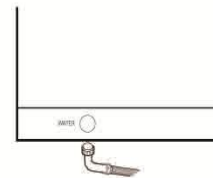

Fig. 5
- 2- Connect the solenoid valve, which feeds the machine, to the water shutoff valve, using a flexible line. (Fig.5) **Each machine must have its own water supply line.**